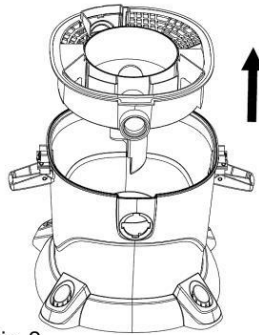

Fig.2
**Step 2:** Lift the filtration assembly and unpack the casters and attachments from the barrel (Fig. 2).